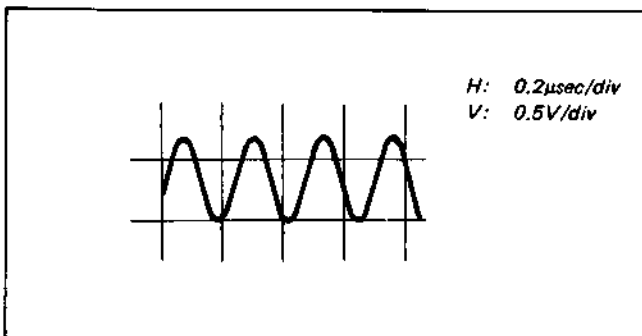

Fig. 4-4-15. Output level check
- (1) Do not supply the VTR with any signal and set up the E-E mode.
- (2) Connect the frequency counter to TP24 (emitter of Q57).
- (3) Adjust T8 so that the oscillating frequency is  $4.433619\text{ MHz} \pm 5\text{ Hz}$ .
- (4) Check that the output level is  $0.7\text{ V} \pm 0.2\text{ V}_{p-p}$ . (See Fig. 4-4-15.)